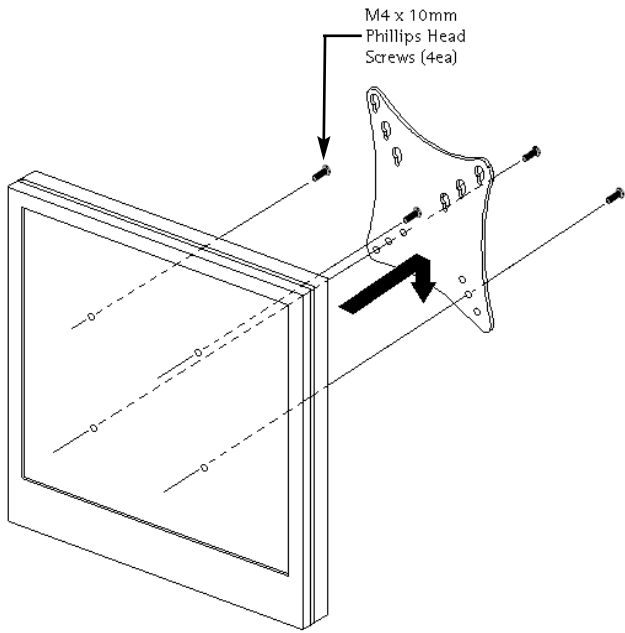

Figure 5. Mounting the Display
1. Install the two (2) M4 x 10mm Phillips head screws (7 complete rotations into the display). Insert the screw heads into the matching keyhole slots on the mounting pad.
2. Hang the display on the mount and secure the two remaining M4 x 10mm lower mounting screws (Figure 5). Tighten all hardware. Do not overtighten screws!